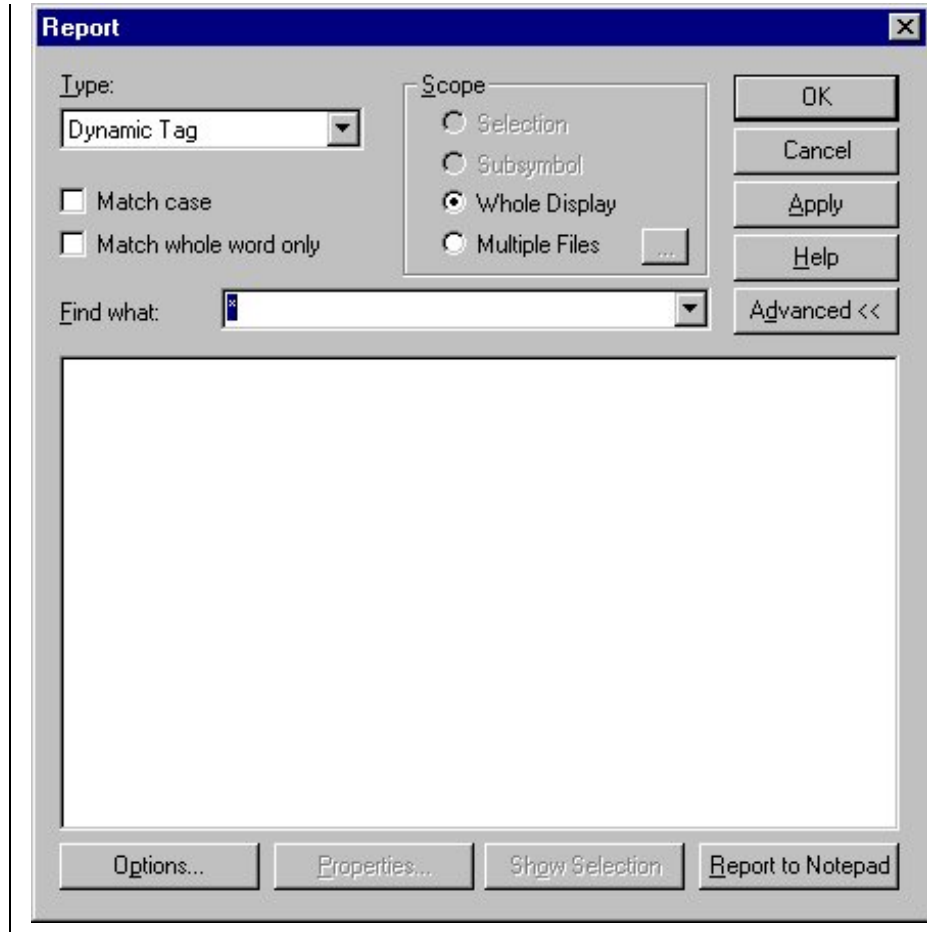

Figure 6-4: Report Dialog Box
1. On the Edit menu, select Report. The Report dialog box appears (Figure 6-4).